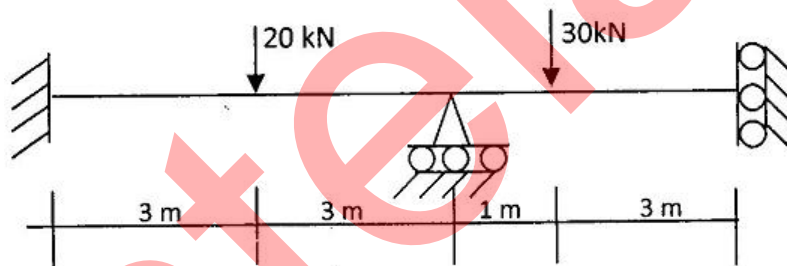

Figure 3
- 15 Analyse the continuous beam shown in figure 3 by stiffness matrix method and draw the BMD.